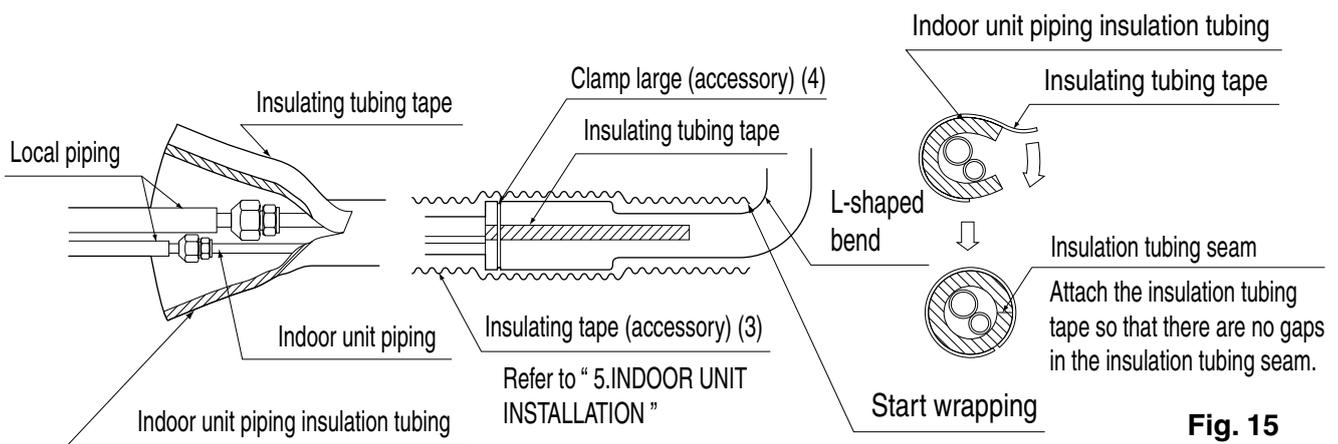

Fig. 15
- After leakage check of piping connection is finished, carry out thermal insulation with the supplementary piping insulation tubing and insulating tape (3). The insulating tape (3) should be wrapped from the L-shaped bend all the way to the end inside the unit. **(Refer to Fig. 15)**